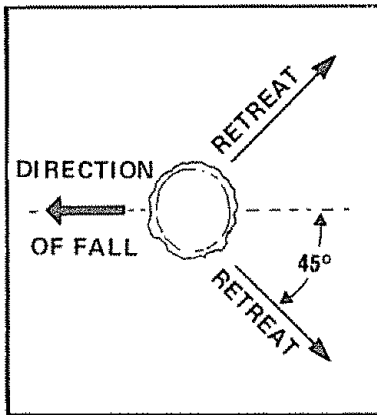

Figure 27
- Plan a clear retreat path to the rear and diagonal to the line of fall. Figure 27.